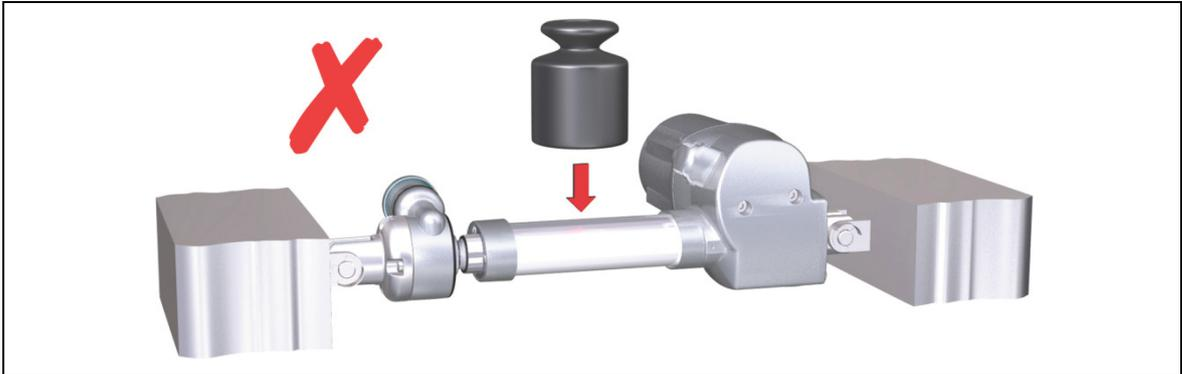

Figure 18 The effect of the installation position
- ▶ The release force will increase, for example, if the drive unit is subjected to a lateral force from other attachments. The resulting release force may be far over the specification. (Figure 18 shows a horizontally installed drive unit with a lateral force acting upon it.)